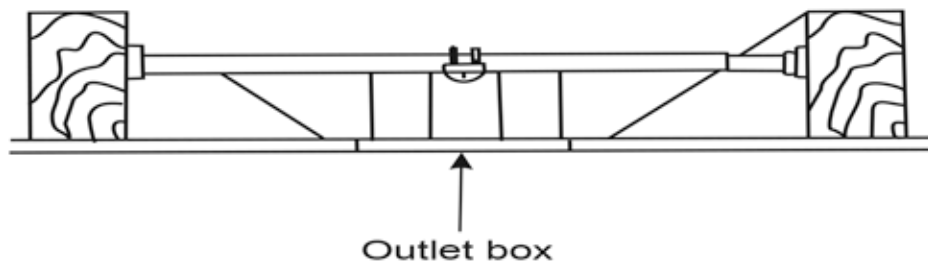

Fig.2
**NOTE:** Depending on the location you have selected for installation, you may need to purchase and install a "Joist Hanger" for the support of the outlet box. Make sure the joist hanger you purchase has been designed for use with ceiling fans. (Fig. 2)